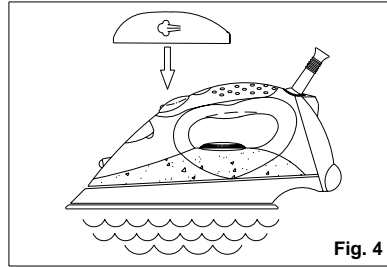

Fig. 4
- With the iron in a horizontal position, press the burst of steam button several times to prime the pump. (Fig. 4)